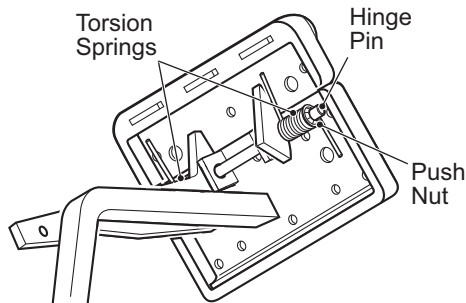

Fig. 10 Parking Brake Pedal Hinge Inspection
- Operate parking brake pedal to confirm smooth operation of the hinge mechanism (Ref Fig. 10).